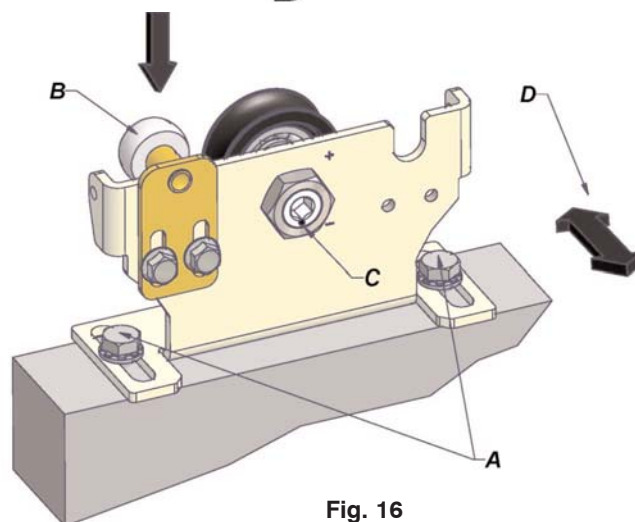

Fig. 16
Use M8 hexagon head cap screws with flat and notched washers (Fig.16 part.A).
Adjust wing position Fig.16 arrow D loosening bolts M8 (Fig.16 part. A) and aligning them to the automatism support surface.
- Loosen bolts (**Fig.16 part.A**)
- Tighten the bolts (**Fig.16 part.A**) paying careful attention not to alter the alignment.